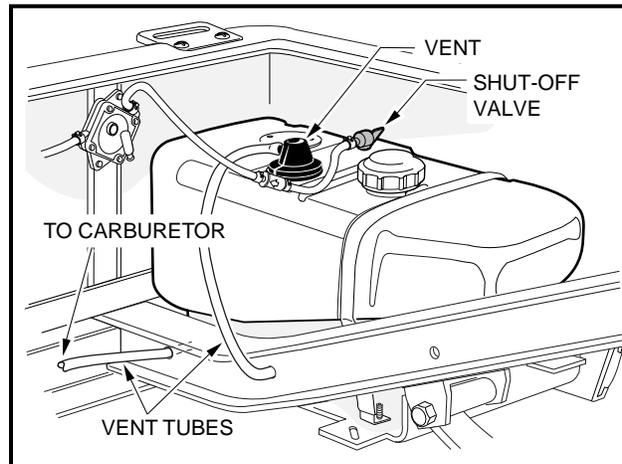

Figure 3-14 Fuel Tank, Vent, and Lines
- **GASOLINE VEHICLE ONLY:** TURN FUEL SHUT-OFF VALVE TO **OFF (FIGURE 3-14, PAGE 3-8).**